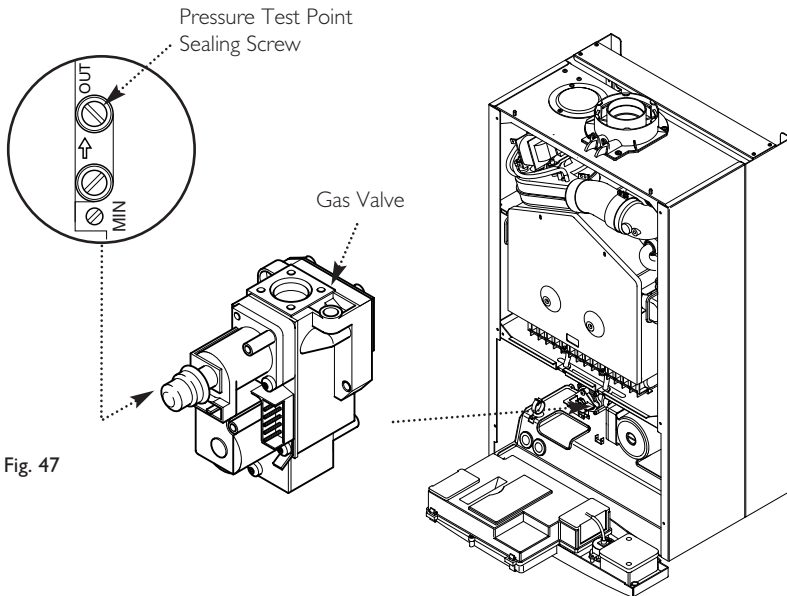

Fig. 47
3. Slacken the pressure test point sealing screw on the gas valve and connect a pressure gauge (Fig. 47).